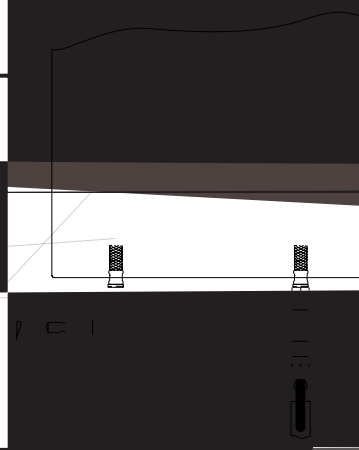

Fig. 26 Plumbing Connections and Pressure Relief Valve
The PRV is supplied with the heater and must be installed with the heater. No valve is to be installed between the PRV and the heater. No restriction may be installed in the hot water charge line must be a minimum of 1/2" and installed such that it is not less than 18" from the PRV and the line. The PRV must be readily accessible for service and be mounted as close to the heater as possible. See Fig. 26. To install the PRV, connect it to an extension on a hot water line.
- ▶ **2.** The gas valve must be shut off by putting the ON/OFF switch to position (0). Wait five (5) minutes to clear out any gas. If you smell gas, STOP! Follow "B" in the safety information above. If you do not smell gas, go to the next step.
- ▶ **4.** Set the ON/OFF switch to the (I) position. In this position, the water heater is ready to use.
**NOTE: on a first time initial installation or after gas line work has been done, existence of air in the gas line will cause ignition delay when the hot water is turned on. This will result in an error (EA) on the units display screen. This is normal. When this occurs, leave the hot water running and wait 3-5 seconds, then reset the unit (Fig. 26, pos. 2). Wait for (EA) to disappear. The heater will begin to attempt ignition again, if the (EA) reappears then repeat this same process until all air has been bled from the gas line.**